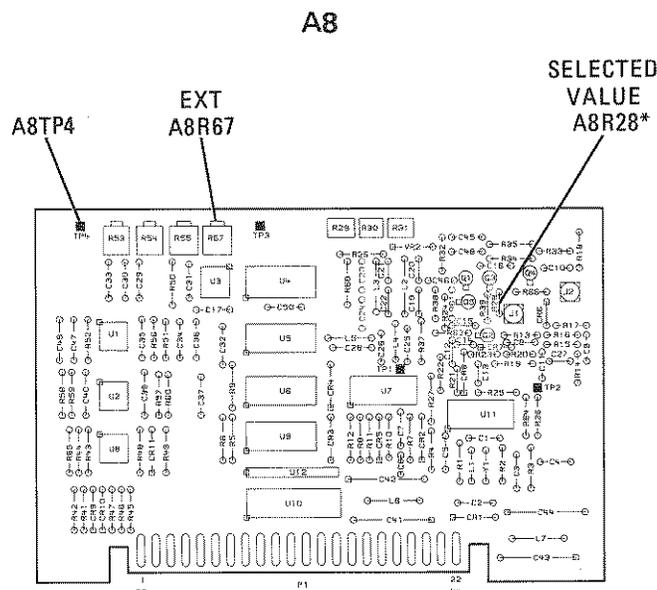

Figure 5-45. External Marker Adjustments Location
3. If no marker is observed on the 8755C, adjust A8R67 (EXT) control (Figure 5-45) until a marker appears on the screen. If the marker does not appear, go to step 4.